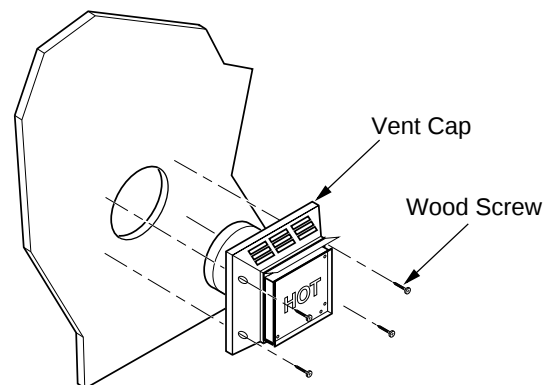

Figure 25 - Installing Horizontal Vent Cap (Noncombustible Exterior)
4. **Noncombustible Exterior Wall:** Apply a bead of non-hardening mastic around the outside edge of the vent cap. Position the vent cap in the center of the 7 1/2" (19.1cm) hole on the exterior wall with the arrow on the vent cap pointing up. Attach the vent cap with four wood screws provided (see Figure 25). *Note:* Replace the wood screws with appropriate fasteners for stucco, brick, concrete, or other types of siding.